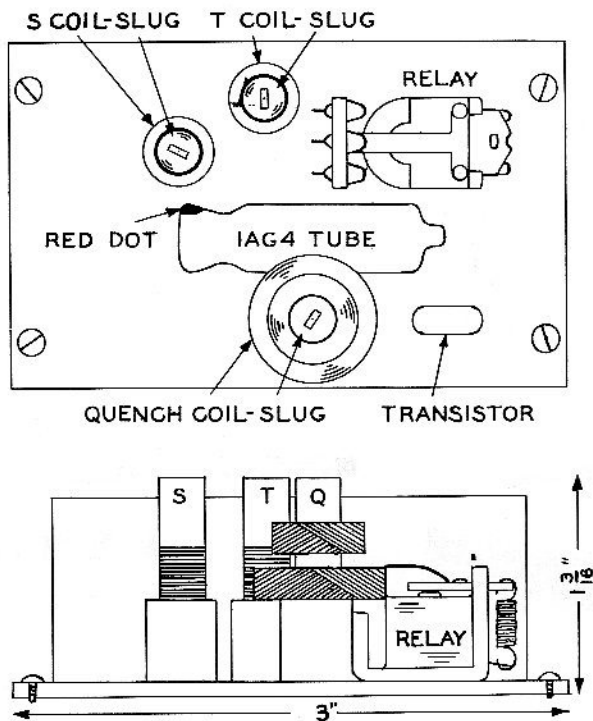

Fig 1
- 10.2 Looking at the top of the receiver identify T & S coils (Figures 1, 2, 5). The T coil adjusts the tuning and the S coil adjusts the sensitivity.
Turn slug of quench coil (identify quench coil Figures 1, 2, 5,) in or out to find the lowest tube plate current reading or valley - i.e., a definite minimum as slug is rotated in or out. This is the most sensitive quench coil setting.